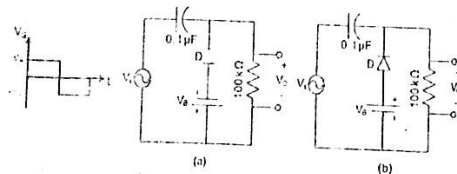

Figure 3.8: Experimental Circuit 3.
4. For the clamper circuits of figure 3.8 do the same steps as step 1 and 2 with V_s wave shapes as drawn beside each figure having $V_m = 5$ volts.